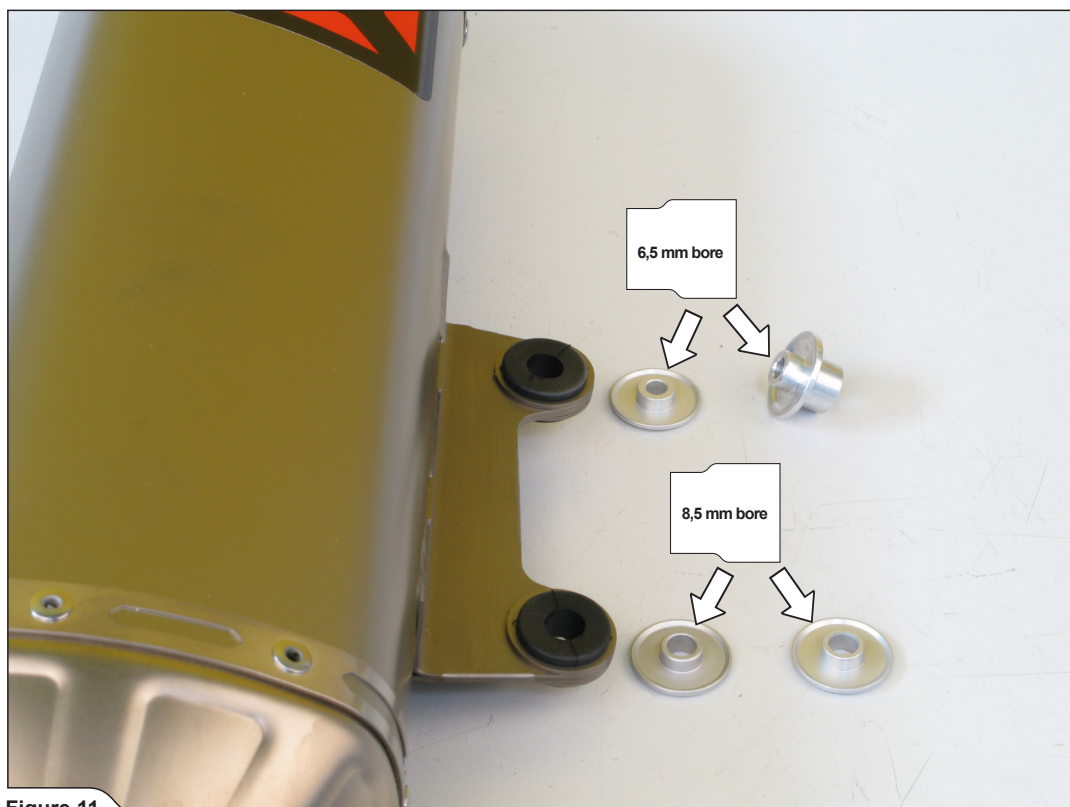

Figure 11
6. Assemble the aluminium bushes from Akrapovič installation kit into the muffler's bracket, as shown (Figure 11, 12).